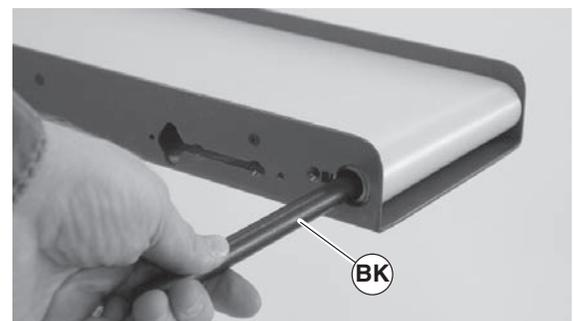

Figure 39
2. Insert sleeve arbor tool (Figure 39, item BK) (45-02, part of tool kit 4500).